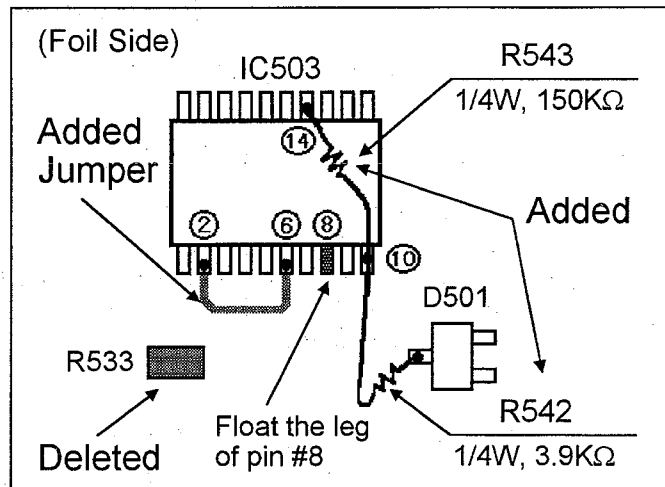

Fig. 2 Page 3-7 (G-3)
- 2). Delete resistors R267 and R533 (1/10W, 2.2K Ω) and R268 (1/10W, 220 Ω) from the foil side as shown in figures 2, 3, 4 and 5.
- 3). Float the leg of pin # 8 of IC258 and IC503 on the foil side as shown in figures 2, 3, 4 and 5.
- 5). Add a resistor R542 (1/4W, 3.9K Ω) between pin #10 of IC503 and cathode of D501 on the foil side as shown in figures 2 and 4.
- 6). Add a resistor R543 (1/4W, 150K Ω) between pins #10 and #14 of IC503 on the foil side as shown in figures 2 and 4.
- 8). Connect a jumper wire between pins #2 and #6 of IC503 on the foil side as shown in figures 2 and 4.